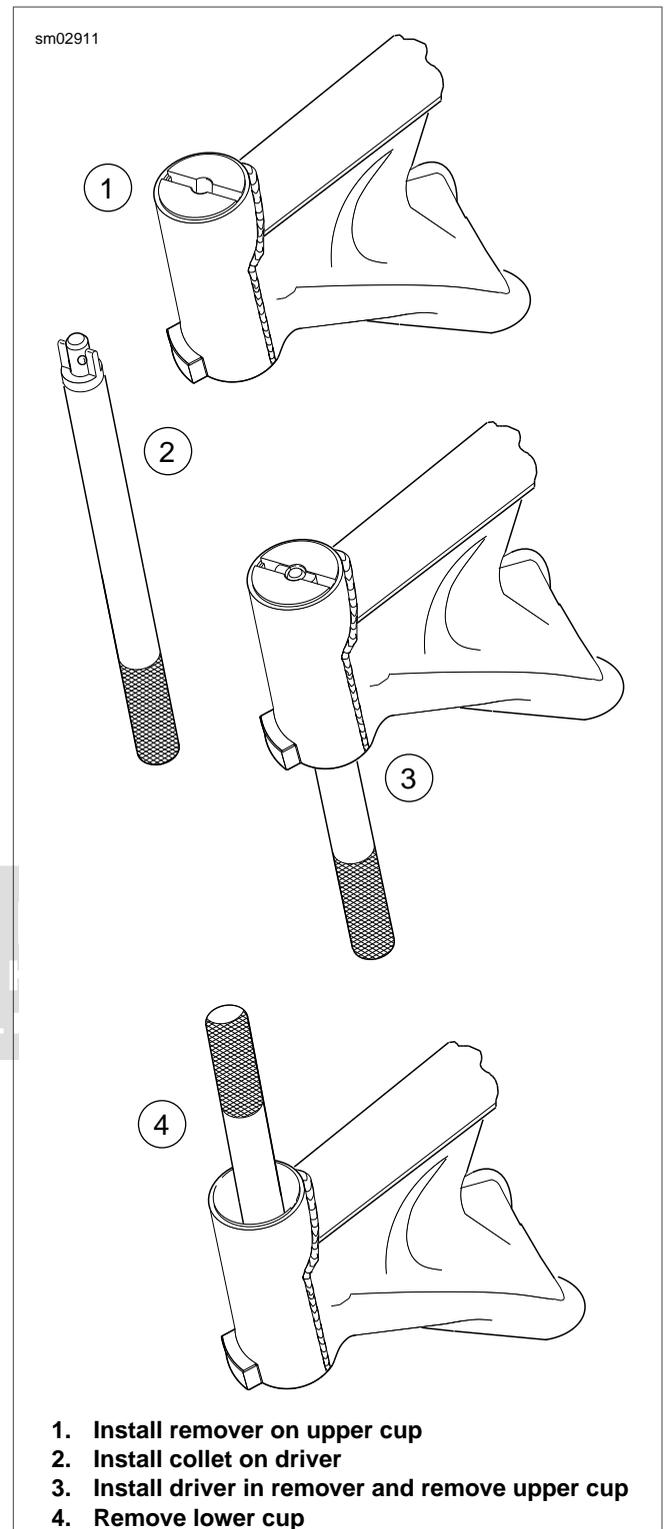

Figure 2-69. Remove Steering Head Bearing Cups
- a. With the tapered side down, seat the two-piece remover tool on the upper bearing cup leaving a gap in the middle. See Figure 2-69.